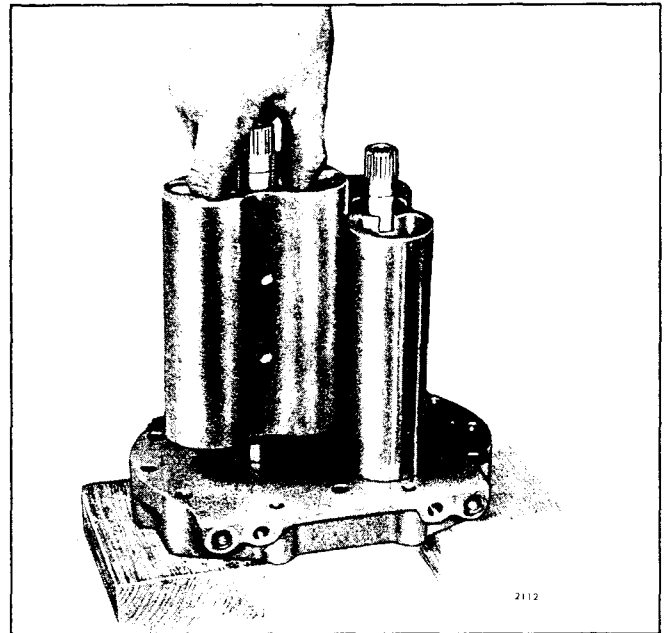

Fig. 10 - Installing Blower Rotors in Front End Plate
3. Place the front end plate on two wood blocks. Then install the rotors, gear end up, on the end plate (Fig. 10). On the former blowers, be sure that the ring type oil seals are properly positioned on the rotors.